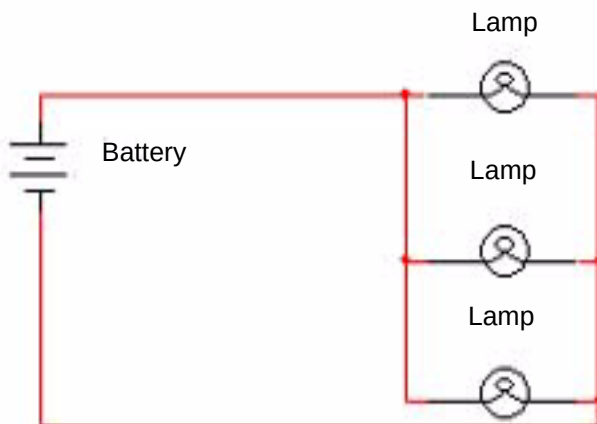

Figure 7.19
- Parallel circuits are wired so that current has multiple paths to follow. If a component in one of the parallel paths fails, the rest of the circuit will keep working. See Figure 7.19.